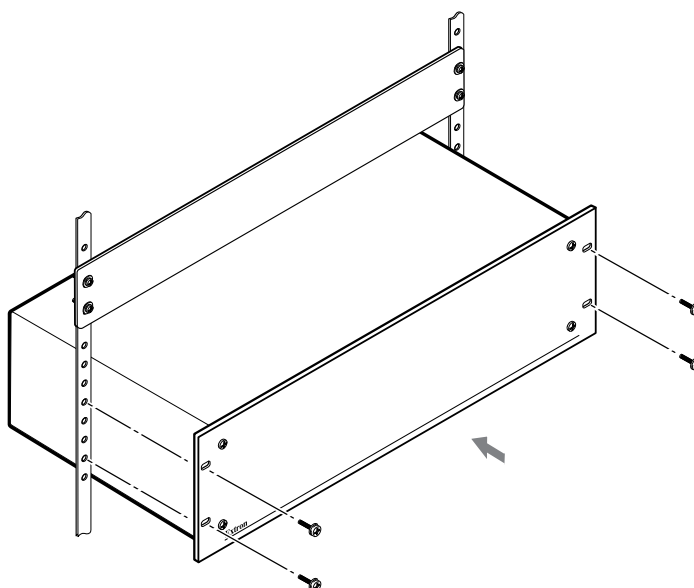

Figure 2-1 — Installing the switcher in a rack
1. Insert the switcher into the rack, aligning the holes in the mounting ears with those in the rack (figure 2-1).